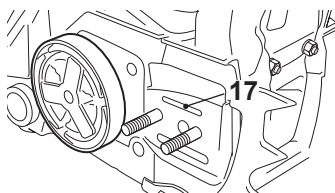

Fig. 50
- > Check the oiling port (17) for clogging and clean if necessary to ensure proper lubrication of the guide bar and saw chain during operation. Use a soft wire small enough to insert into the oil discharge hole (Fig. 50).